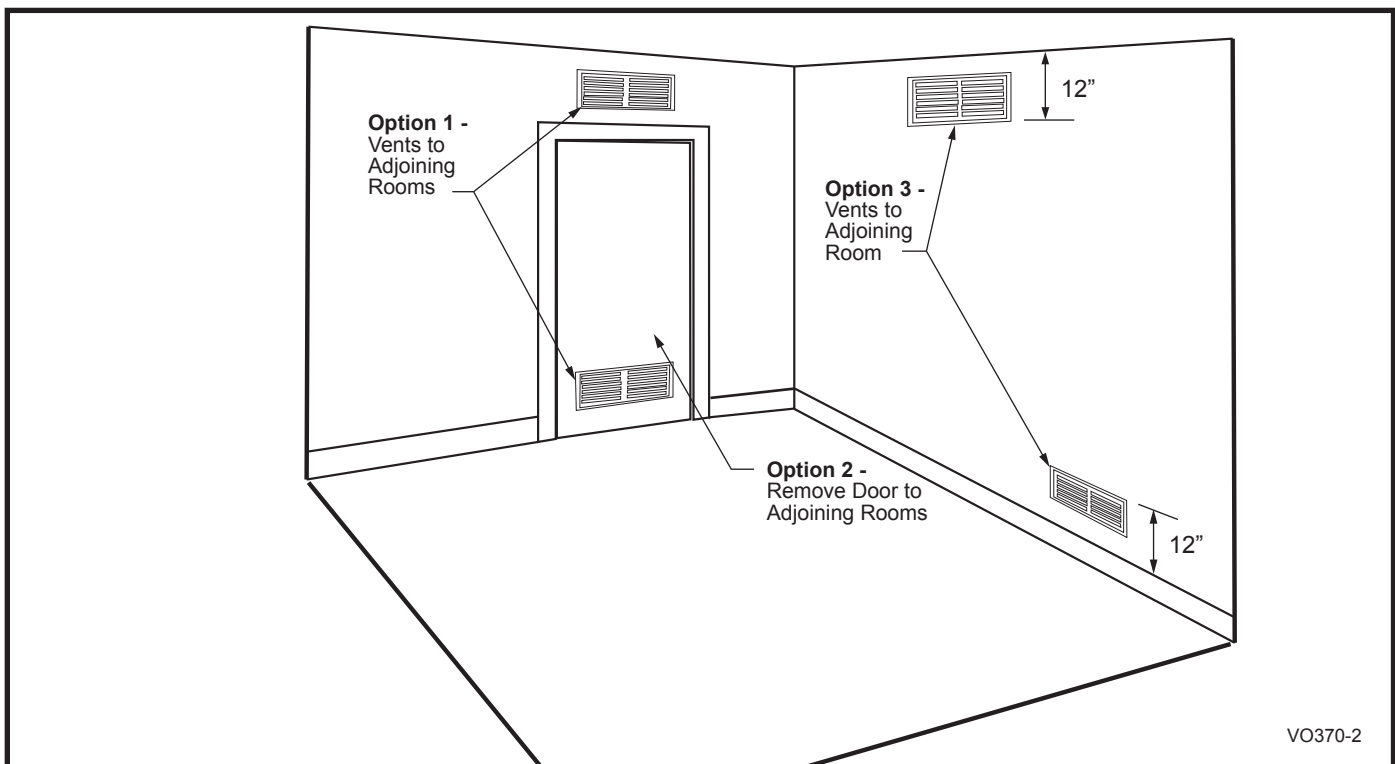

Fig. 2 Ventilaton options for confined spaces.
**A.** Open or provide at least two ventilating grilles to an adjoining unconfined space. (Fig. 2)